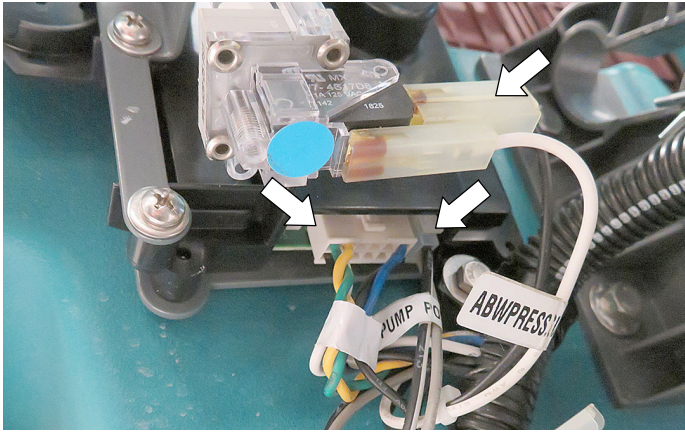

Fig. 4
6. Plug the three ABW wire harness connectors into the module and pressure switch (Figure 4).